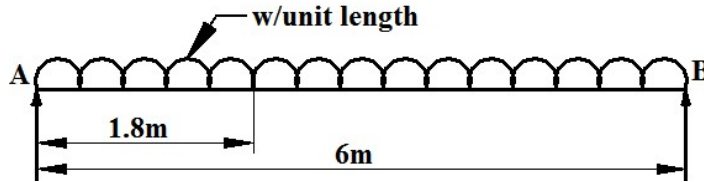

Figure 41
9. A steel grinder of 6m length acting as a beam carries a uniformly distributed load  $w$  N/m runs throughout its length as shown in **Figure 41**. If  $I=30 \times 10^{-6} \text{ m}^4$  and depth 270mm. Calculate i) Magnitude of " $w$ " so that the maximum stress developed in the beam section does not exceed  $72 \text{ MN/m}^2$  ii) The slope and the deflection in the beam at a distance of 1.8m from one end. Take  $E=200 \text{ GN/m}^2$  (June/July 09)